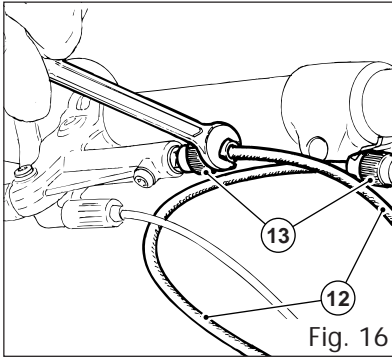

Fig. 16
- using an 8 mm forkwrench unscrew the connector (13, fig. 16) on the pump valve. Take the tube off the pump;
- reassemble the tube on the pump and tighten the lock ring (13, fig. 16) by hand on the one-way valve until it stops turning;
- pull on the tube to check that needle insert (14) and biconical bush (15) are correctly mounted in the lock ring (13).